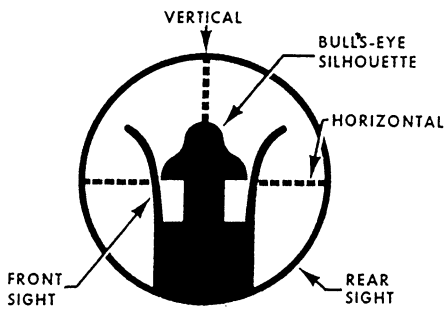
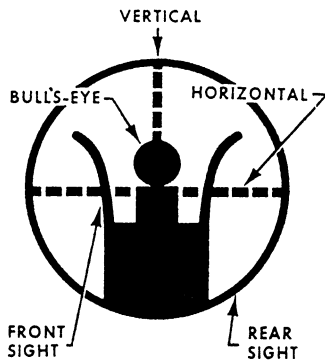

Figure 3-39.—6 o'clock sight picture held on "A" target at a range of 200 yards.
Figure 3-40.—6 o'clock sight picture held on "D" target at a range of 200 yards.
**AIMING POINT.**— The aiming point is that point on the target upon which the sights of the weapon are brought to bear. The correct aiming point is at 6 o'clock; that is, the bottom of the bull's-eye of a type "A" target (fig. 3-39) or the silhouette of a type "D" target (fig. 3-40). Any location on the target face is always given relative to a similar position on a clockface regardless of the target shape. Therefore, a vertical line in the exact center of the target would be described as running from 12 o'clock (top) to 6 o'clock (bottom).
**SIGHT PICTURE.**— You obtain the correct sight picture by aligning the rear sight, the front sight, and the bull's-eye (figs. 3-39 and 3-40). Each of these three elements affects the sight picture. As you can see from figure 3-41, any error in sight alignment will increase as the range increases. An error in the aiming point remains constant as the range increases. Therefore, of the two, sight alignment is the most important.